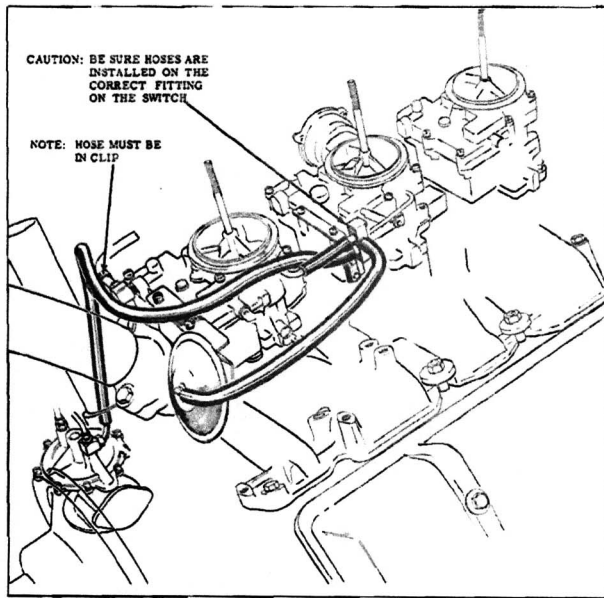

Fig. 10 Vacuum Hoses
7. Install the three vacuum hoses as shown in Fig. 10.